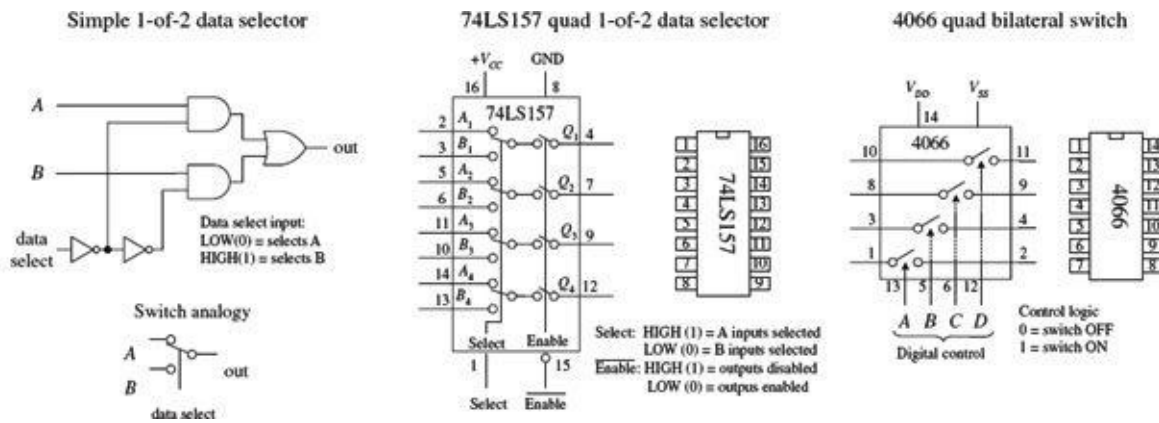
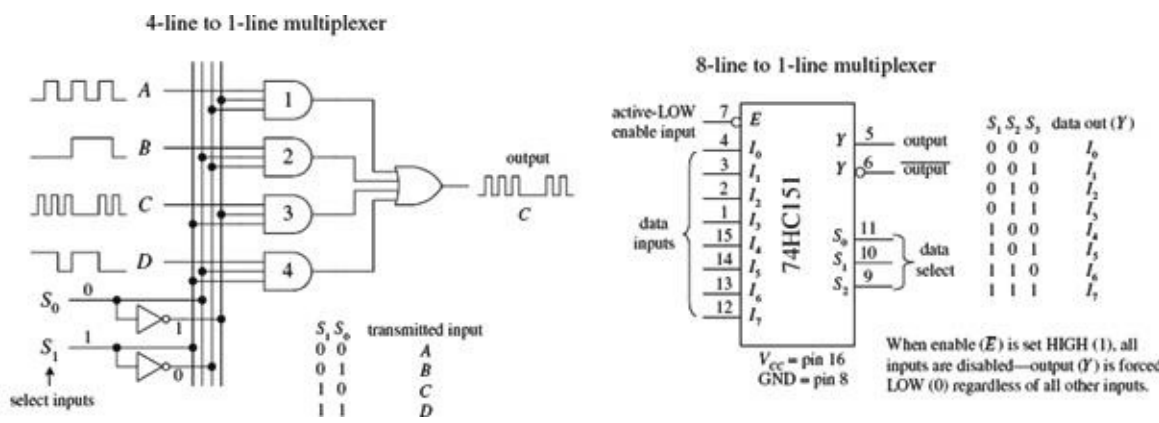

FIGURE 12.32
FIGURE 12.33
A simple 1-of-2 data selector built from logic gates is shown in Fig. 12.32. The data select input of this circuit acts to control which input (*A* or *B*) gets passed to the output: When data select is low, input *A* passes while *B* is blocked. When data select is high, input *B* is passed while *A* is blocked. To understand how this circuit works, think of the AND gates as enable gates.
There are a number of different types of data selectors that come in IC form. For example, the 74LS157 quad 1-of-2 data selector IC, shown in Fig. 12.32, acts like an electrically controlled quad SPDT switch (or if you like, a 4PDT switch). When its select input is set high (1), inputs A₁, A₂, A₃, and A₄ are allowed to pass to outputs Q₁, Q₂, Q₃, and Q₄. When its select input is low (0), inputs B₁, B₂, B₃, and B₄ are allowed to pass to outputs Q₁, Q₂, Q₃, and Q₄. Either of these two conditions, however, ultimately depends on the state of the enable input.
Figure 12.33 shows a 4-line-to-1-line multiplexer built with logic gates. This circuit resembles the 2-of-1 data selector shown in Fig. 12.32 but requires an additional select input to provide four address combinations.
Finally, let's take a look at a very useful device called a *bilateral switch*. An example bilateral switch IC is the 4066, shown to the far right in Fig. 12.32. Unlike the multiplexer, this device merely acts as a digitally controlled quad SPST switch or quad transmission gate. Using a digital control input, you select which switches are on and which switches are off. To turn on a given switch, apply a high level to the corresponding switch select input; otherwise, keep the select input low.